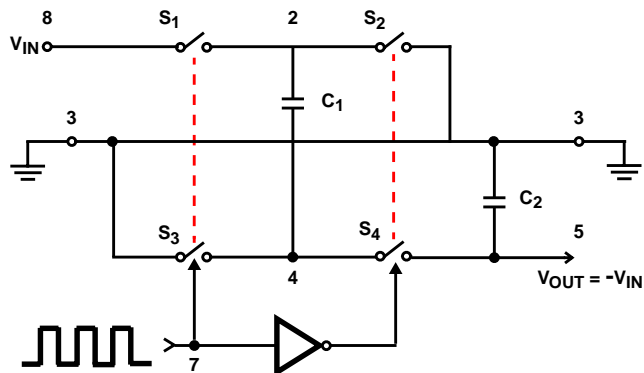
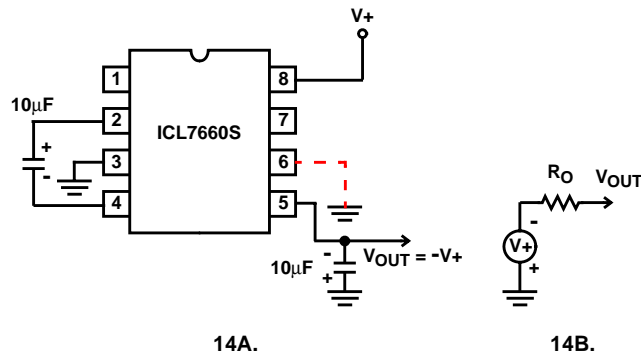
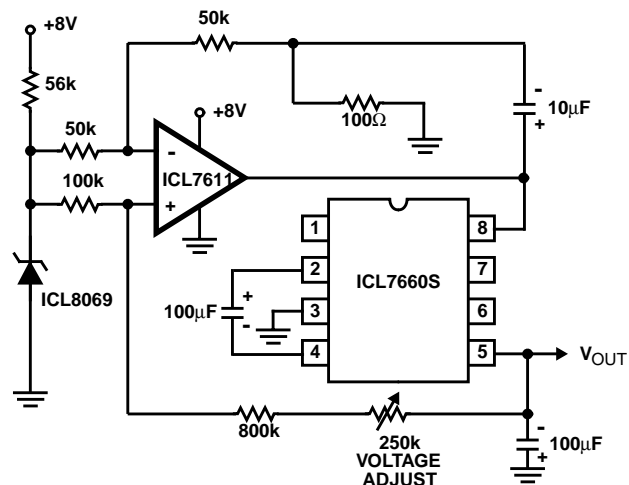
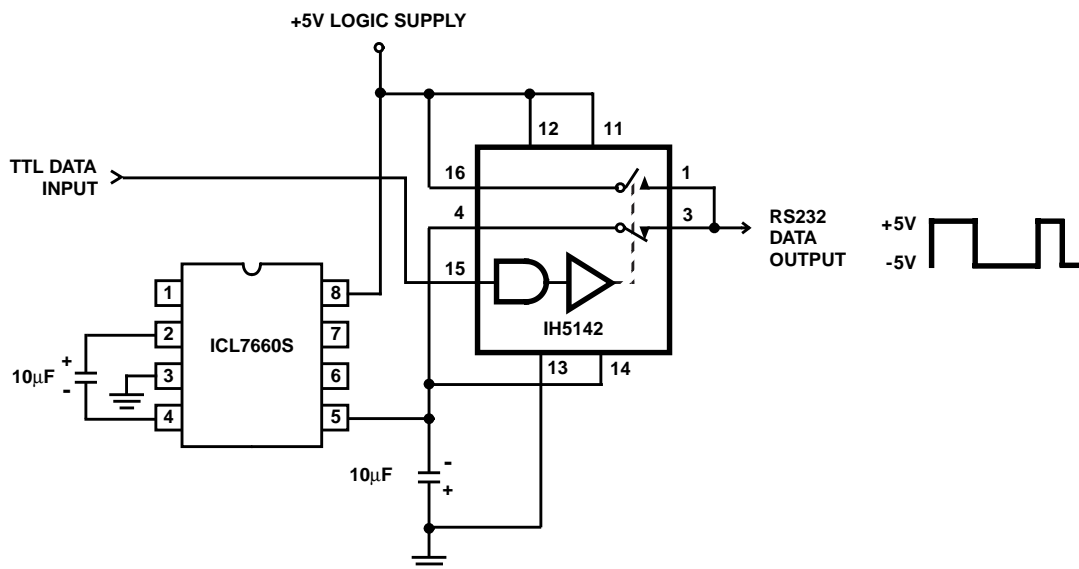

FIGURE 13. IDEALIZED NEGATIVE VOLTAGE CONVERTER
FIGURE 14. SIMPLE NEGATIVE CONVERTER AND ITS OUTPUT EQUIVALENT
FIGURE 20. REGULATING THE OUTPUT VOLTAGE
FIGURE 21. RS232 LEVELS FROM A SINGLE 5V SUPPLY
The ICL7660S contains all the necessary circuitry to complete a negative voltage converter, with the exception of 2 external capacitors which may be inexpensive 10 μ F polarized electrolytic types. The mode of operation of the device may be best understood by considering Figure 13, which shows an idealized negative voltage converter.
In the ICL7660S, the 4 switches of Figure 13 are MOS power switches; S_1 is a P-Channel devices and S_2 , S_3 and S_4 are N-Channel devices. The main difficulty with this approach is that in integrating the switches, the substrates of S_3 and S_4
where V_1 and V_2 are the voltages on C_1 during the pump and transfer cycles. If the impedances of C_1 and C_2 are relatively high at the pump frequency (refer to Figure 13) compared to the value of R_L , there will be substantial difference in the voltages V_1 and V_2 . Therefore it is not only desirable to make C_2 as large as possible to eliminate output voltage ripple, but also to employ a correspondingly large value for C_1 in order to achieve maximum efficiency of operation.
The majority of applications will undoubtedly utilize the ICL7660S for generation of negative supply voltages. Figure 14 shows typical connections to provide a negative supply where a positive supply of +1.5V to +12V is available. Keep in mind that pin 6 (LV) is tied to the supply negative (GND) for supply voltage below 3.5V.
The output characteristics of the circuit in Figure 14 can be approximated by an ideal voltage source in series with a resistance as shown in Figure 14B. The voltage source has a value of $-(V^+)$. The output impedance (R_O) is a function of the ON resistance of the internal MOS switches (shown in Figure 13), the switching frequency, the value of C_1 and C_2 , and the ESR (equivalent series resistance) of C_1 and C_2 . A good first order approximation for R_O is:
The ICL7660S may be employed to achieve positive voltage doubling using the circuit shown in Figure 20. In this application, the pump inverter switches of the ICL7660S are used to charge C_1 to a voltage level of $V+ - V_F$ (where $V+$ is the supply voltage and V_F is the forward voltage on C_1 plus the supply voltage ($V+$) is applied through diode D_2 to capacitor C_2 . The voltage thus created on C_2 becomes $(2V+) - (2V_F)$ or twice the supply voltage minus the combined forward voltage drops of diodes D_1 and D_2 .
Figure 21 combines the functions shown in Figure 14 and Figure 20 to provide negative voltage conversion and positive voltage doubling simultaneously. This approach would be, for example, suitable for generating +9V and -5V from an existing +5V supply. In this instance capacitors C_1 and C_3 perform the pump and reservoir functions respectively for the generation of the negative voltage, while capacitors C_2 and C_4 are pump and reservoir respectively for the doubled positive voltage. There is a penalty in this configuration which combines both functions, however, in that the source impedances of the generated supplies will be somewhat higher due to the finite impedance of the common charge pump driver at pin 2 of the device.